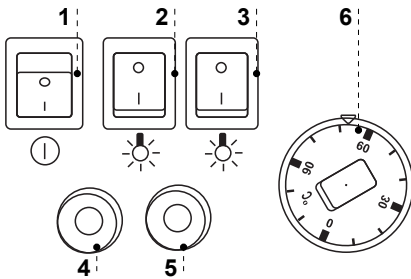
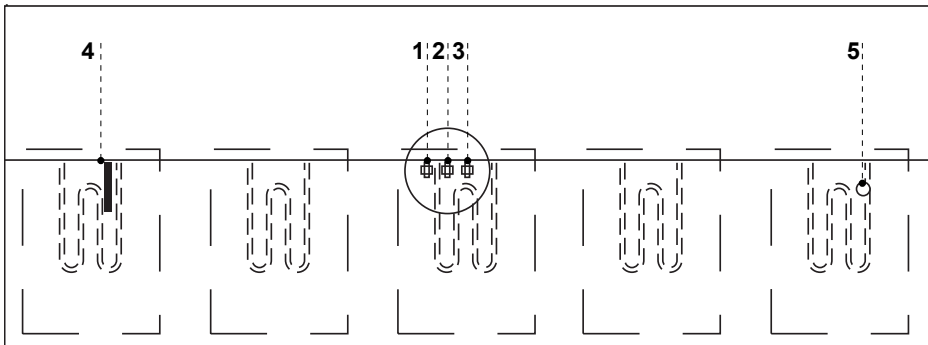

Fig.6 Control panel
Fig.7 Bain-marie tank
- Turn on the main switch Fig.6/1 (p.10), which activates the electric heaters of bain-marie tank
- Set the desired temperature on thermostat control panel Fig.6/6 (p.10) by means of knob.
- Turn on the lamp switches Fig. 6/2; 3 (p.10)
Optimal level of poured water should fall slightly above the level (2) Fig. 7(p.10). The level of poured should not be too high, as this can prolong the water heating time. Apart from the above, the water may not reach the proper, high temperature, and heaters may work continuously, which will cause greater power consumption and quicker wear and tear of the heaters.
Bain-marie is equipped with **SPW-4 water level regulator** used to control and manage tank water level. This regulator is equipped with sound and light signalling Fig. 6/4;5 (p.10) illustrating bain-marie operating condition.
Bain-marie is equipped with mechanical temperature regulator. Temperature sensor is located in the bain-marie tank Fig.7/4 (p.10). Set the desired water temperature in the tank Fig.6/6 (p.10) with the help of regulating knob by turning it and setting in proper position. Turning the knob clockwise increases the set temperature, and turning it in the opposite direction causes its decrease. Turning the knob left, until it reaches the final position turns off the heaters, despite the fact that the power supply is activated.
The lamp system includes ceramic infrared radiators and bulbs aimed to operate in high temperatures. **Infrared radiators** are used for additional, superficial dish heating. They use the phenomenon of temperature radiation, aiming in absorbing and changing the radiation energy falling on heated dishes into heat. Radiated waves fall through air without any difficulties and do not emit heat until they reach the heated surface. Bulbs and infrared radiators may be turned on/ turned off independently with switches placed on control panel Fig.6/2;3 (p.10).